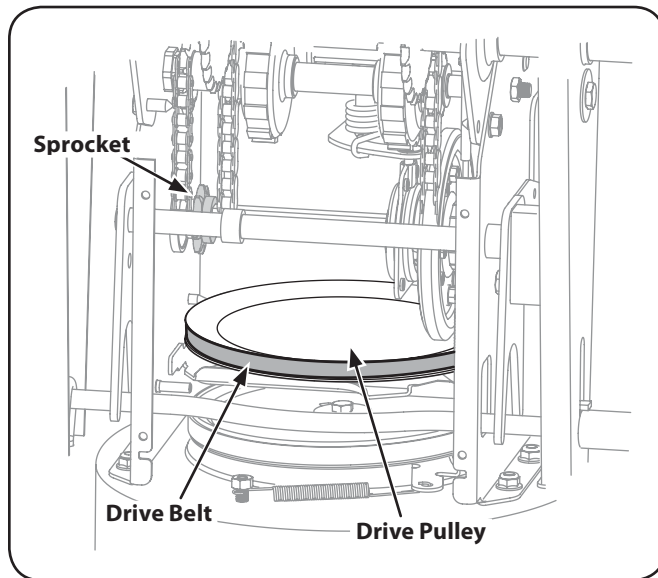

Figure 7-7
7. Slip the drive belt off the pulley and between friction wheel and drive pulley. See Fig. 7-7.
NOTE: Make sure to install the gear shaft through the sprocket shown in Fig. 7-7. If the sprocket fell from the snow thrower while removing the hex shaft, place the sprocket on the hex shaft. Position the hex hub of the sprocket toward the friction wheel when sliding the sprocket onto the shaft. See Fig. 7-7.